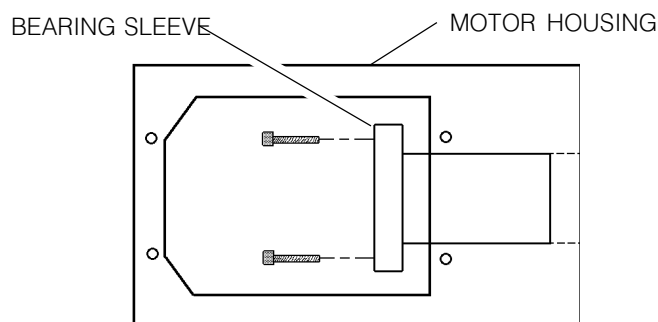

Fig. 11-4 Bearing sleeve mounting location.
4. Place the **bearing sleeve** in the motor housing (Fig. 11-4). It may be necessary to align the bearings in the sleeve to facilitate mounting on the lead screw.